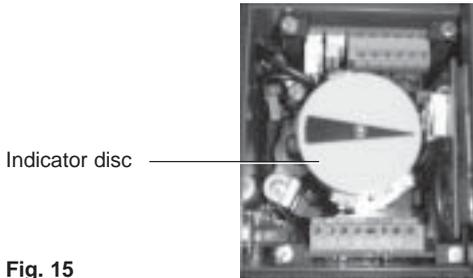

Fig. 15
4.4.4 On completion of setting **PF1** and **PF2** switches refit the travel indicator disc, washer and domed nut (refer to Figure 15).